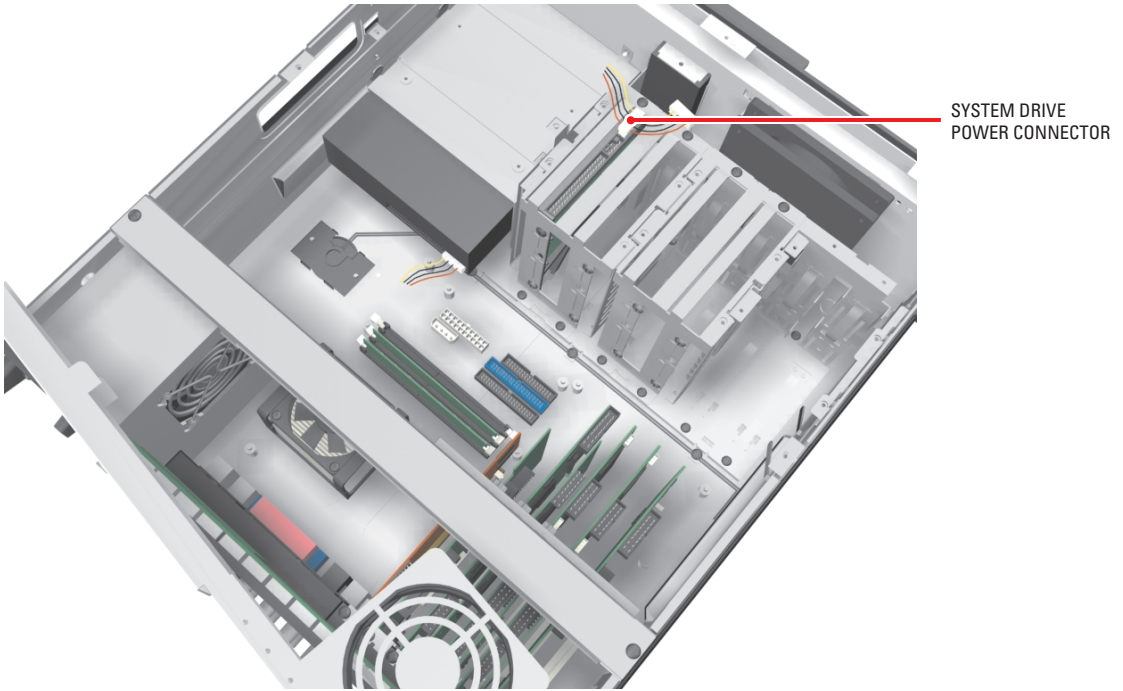

Figure 9. Removing System Drive Power Connection
2. Remove the power connector from the system drive. Refer to Figure 9. If a second drive is installed in the basket, remove the power connector to the second drive.